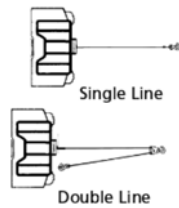

Figure 2
1. Maximum working load capacity is on the wire rope layer closest to the drum. **DO NOT OVERLOAD. DO NOT ATTEMPT PROLONGED PULLS AT HEAVY LOADS.** Overloads can damage the winch and/or the wire rope and create unsafe operating conditions. **FOR LOADS OVER 1/2 RATED CAPACITY, WE RECOMMEND THE USE OF THE OPTIONAL PULLEY BLOCK TO DOUBLE LINE THE WIRE ROPE (Figure 2).** This reduces the load on the winch and the strain on the wire rope by approximately 50%. **The vehicle engine should be running during winch operation.** If considerable winching is performed with the engine off, the battery may be too weak to restart the engine.